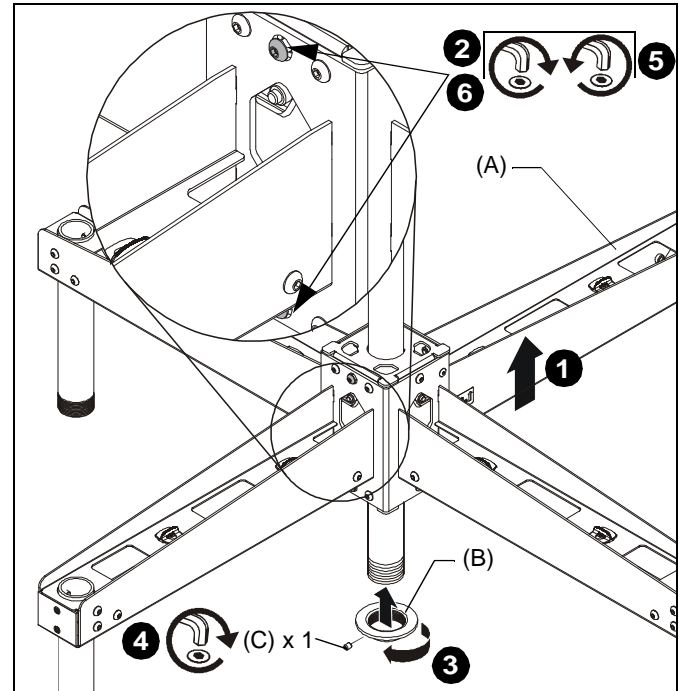

Figure 2
1. Slide quad ceiling accessory (A) up from below onto installed column (not included). (See Figure 2)
2. Tighten two existing 5/16 x 1-1/2" button head cap screws in center of quad ceiling accessory. (See Figure 2)
3. Thread bottom coupling (B) onto installed column at base of quad ceiling accessory until tight, with a minimum of four threads engaged. (See Figure 2)
4. Install and tighten one 10-24 x 1/4" set screw (C) into bottom coupling (B). (See Figure 2)
5. Loosen two button head screws tightened in Step 2, and slide accessory down extension column until it rests on the bottom coupling (B). (See Figure 2)
6. Tighten two button head cap screws (loosened in Step 5) in center of quad ceiling accessory. (See Figure 2)